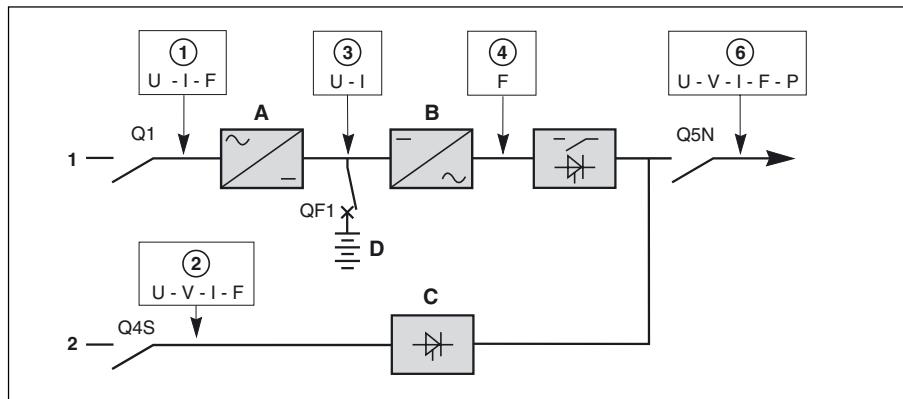

Fig. 23
The display ②3 may be used to read a number of input and output measurements made at different points in the system. See, in the Appendix, figure 23.
► normal AC source ①
► bypass AC source ②
► battery ③